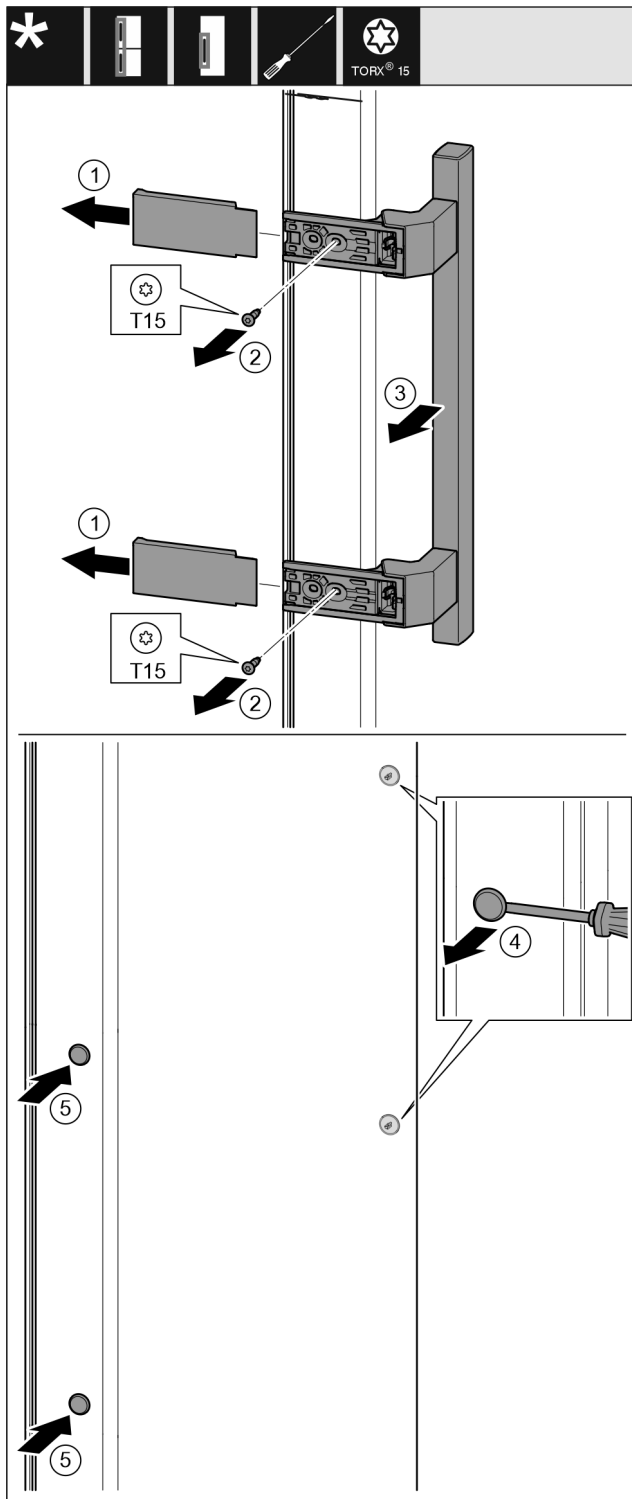

Fig. 14
- Pull off the cover. Fig. 14 (1)
- Unscrew the screws with a Torx 15 screwdriver. Fig. 14 (2)
- Take off the handle. Fig. 14 (3)
- Carefully lift the side plug with a slotted screwdriver and pull it out. Fig. 14 (4)
- Replace the plug on the other side. Fig. 14 (5)